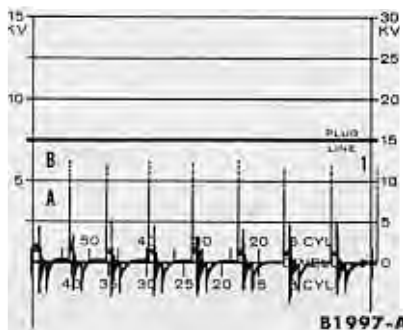

FIG. 12—Normal Secondary Circuit 30 KV Pattern
3. Adjust the EXPAND control so that the right end of the pattern is at the 6-cyl 0° dwell mark on the scope screen (Fig. 12).
A normal eight cylinder engine 30 KV pattern is shown in Fig. 12. The six cylinder pattern would have six similar images. The spark plug line (A) for the No. 1 spark plug is on the extreme right hand side of the screen. The remainder of the No. 1 firing pattern is on the left side of the screen. The remainder of the patterns are shown from left to right in their firing order.